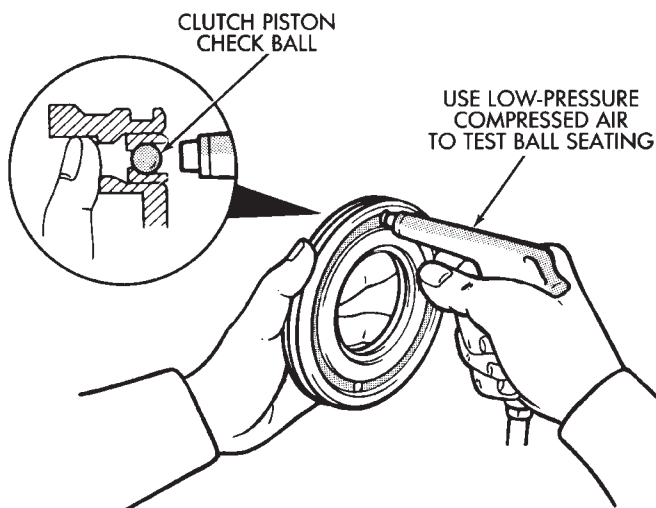

Fig. 17 Testing Clutch Piston Check Ball
(19) Check clutch piston check ball (Fig. 17). Shake piston to see if ball moves freely. Then check ball